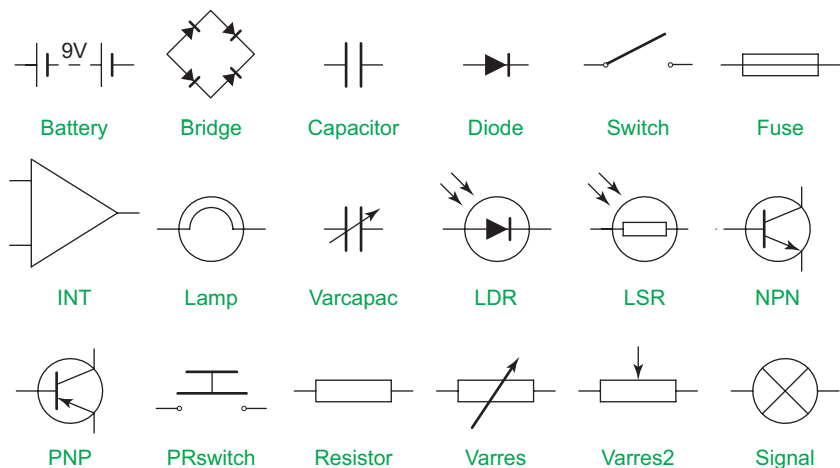

Fig. 9.16 Example using the **DesignCenter** – a set of electric/electronic symbols
1. Construct the set of electric/electronic circuit symbols shown in Fig. 9.16 and make a series of blocks from each of the symbols.